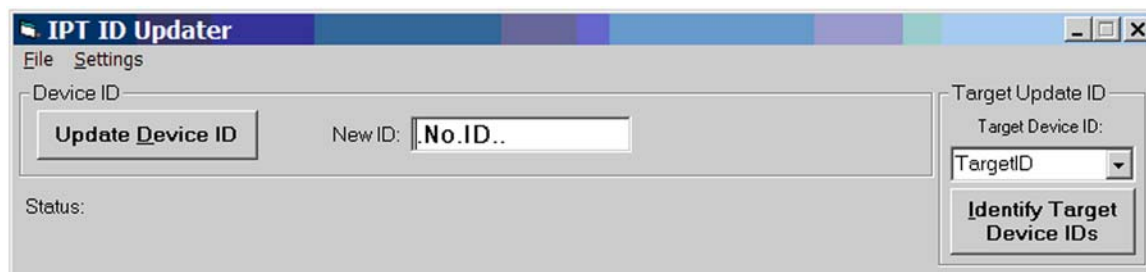

FIGURE 5
1. To start the SEMS II RFID Tag Writer software, go to the WINDOWS START Menu and select "All Programs." Look in the "Scott Health & Safety" program folder to find the shortcut to the "RFID Tag Writer" program. See FIGURE 5.